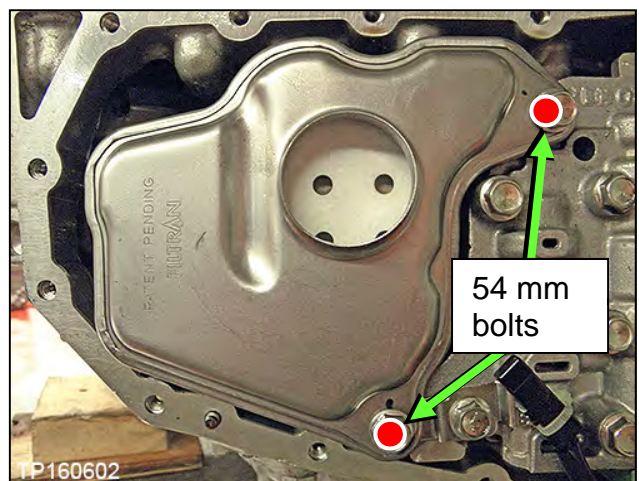

Figure 184
148. Install the new oil strainer with its new O-ring seal with two (2) bolts (Figure 184).